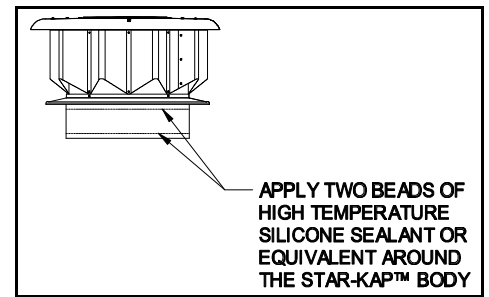

Figure 2
1. Before installation, apply two beads of high temperature silicone sealant or equivalent around the bottom of the storm collar and 1 inch above the end of the Starkap™ body. (See Figure 2)